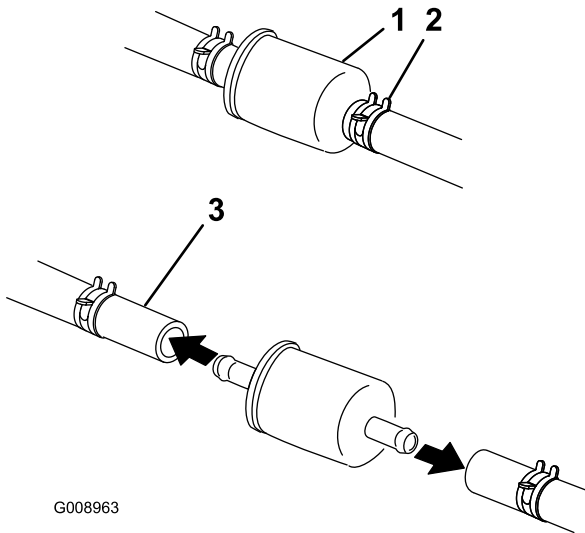

Figure 49
2. Clean around the fuel cap to prevent debris from getting into the fuel tank (Figure 49).
4. Squeeze the ends of the hose clamps together and slide them away from the filter (Figure 49).